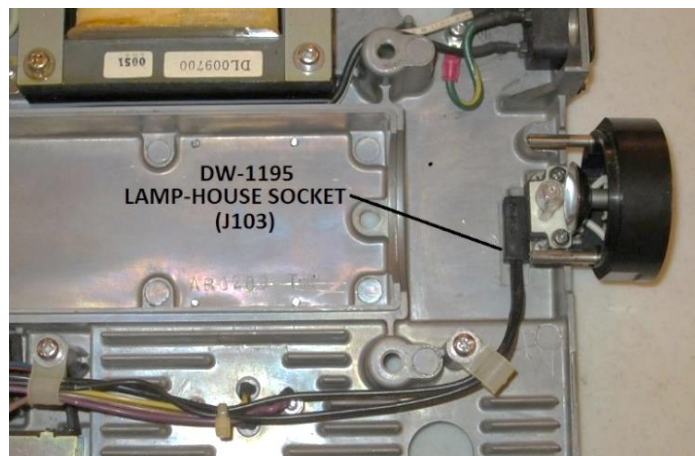
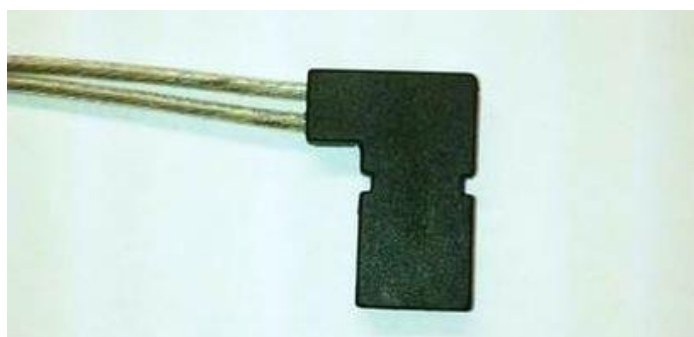

Figure 34 – The DW-1195 lamphouse socket (J103)
Figure 35 – Microscope Solutions lamp-house connector
The lamphouse socket shown in Figure 34, which is marked “DW-1195” (Olympus part number DJ-0278), interfaces with the two power pins on the LS20H or LS20H-M/M2 lamphouse, providing electrical power to the lamphouse. These sockets frequently develop intermittent electrical contacts because of the many mate/de-mate cycles to which they have been subjected over the service life of the microscope. Although replacements for this socket are no longer available from Olympus, a high-quality (albeit quite expensive) remanufactured replacement is available (see Figure 35, photo courtesy James Ritchey) from Microscope Solutions (item 12 of Table 2).